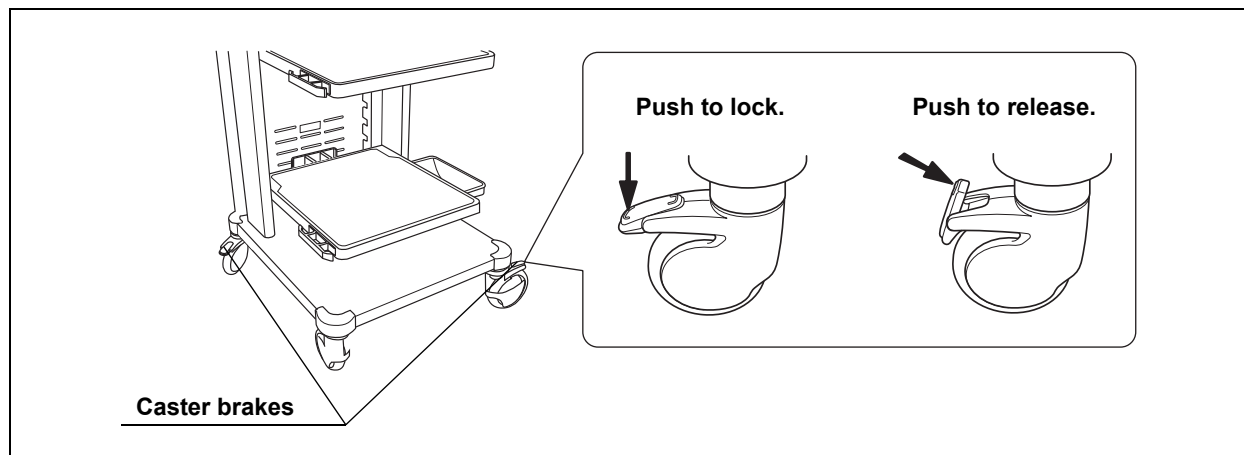

Figure 3.1
- 1 Place the mobile workstation on a level surface. Lock the caster brakes by pushing them down as shown in Figure 3.1.